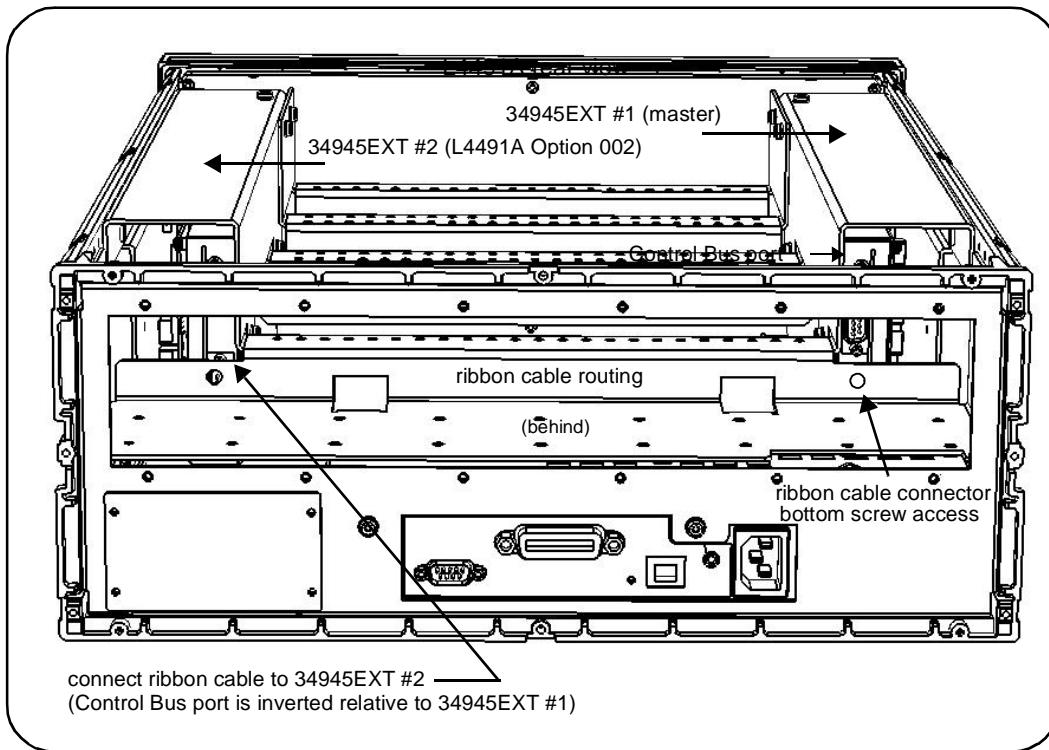

Figure 3-10. Removing the Ribbon Cable from the "Master" 34945EXT.
6. Facing the back of the instrument, locate the ribbon cable leading from the controller box to the "Control Bus" port of the master (right side) 34945EXT. Remove the two screws connecting the ribbon cable to the port (Figure 3-10).